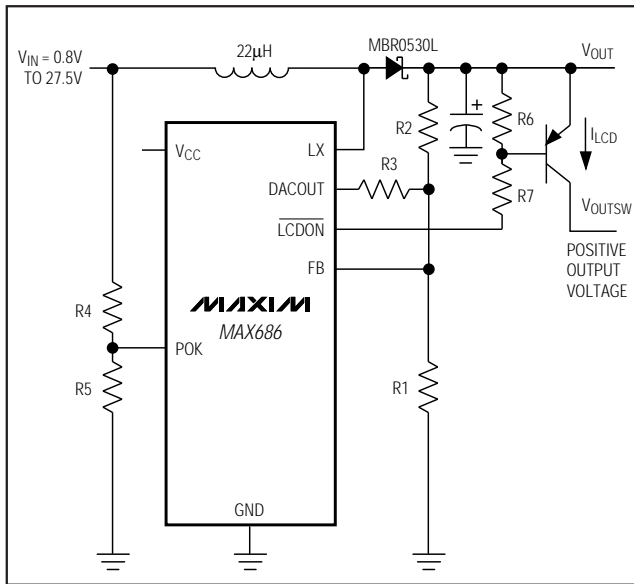

Figure 6. Using the POK for Input Voltage Monitoring
POK is the input to the power-OK comparator. The comparator drives an internal N-channel MOSFET. The MOSFET's open-drain output, $\overline{\text{LCDON}}$, can drive an external PNP transistor or P-channel MOSFET, switching a positive V_{OUT} to the LCD (Figures 6 and 7). When the voltage at POK exceeds 1.125V (power OK), $\overline{\text{LCDON}}$ goes low, turning on the external PNP transistor. When the voltage at POK drops below 1.125V (power not OK), the external PNP transistor turns off, cutting off power to the LCD display. This feature ensures that the LCD display is not damaged due to improper voltage levels. During shutdown or undervoltage lockout, $\overline{\text{LCDON}}$ is high impedance.
When the voltage at POK is greater than 1.125V (typical), the open-drain LCDON output pulls low. LCDON can withstand up to 27.5V to control an external PNP transistor to switch on the MAX686's positive output (Figures 6 and 7). A PFET can also be used, but a resistor-divider must be used in conjunction with it, so that the PFET does not exceed its V_{GS} rating. Three useful applications of this feature are as follows:
- *An input-sensing cutoff for positive outputs.* Connect POK to a voltage divider to sense the input voltage. The output switches on only when the input reaches the set level (Figure 6).
For input voltage sensing, a resistor-divider (R4-R5, Figure 6) from VIN to POK controls the open-drain output LCDON, which pulls low when $V_{POK} > 1.125V$. Choose $R5 = 100k\Omega$. For example, if the minimum battery voltage is 5.3V, then determine R4 as follows: